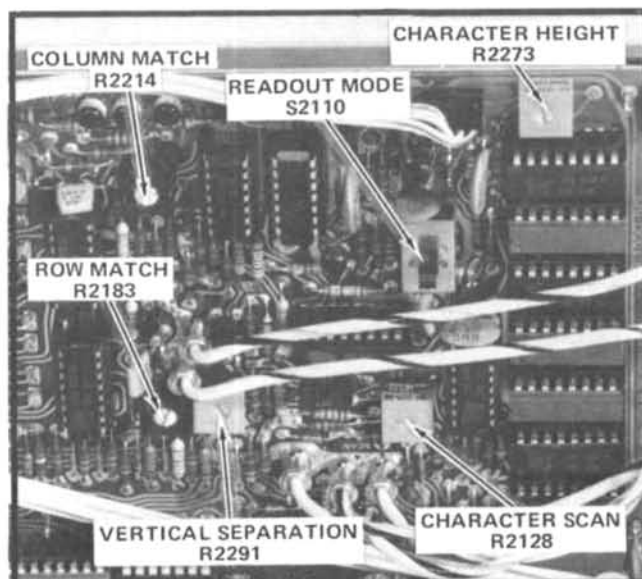

Fig. 2-9. Location of Readout adjustments and switch S2110 (Readout board).
a. Set switch S2110 to Gate Trig'd position (see Fig. 2-9).